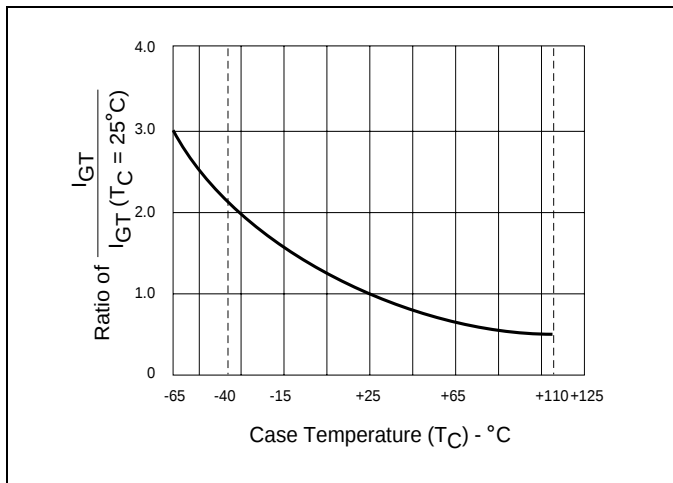

Figure 1.7 Normalized DC Gate Trigger Current for All Quadrants vs Case Temperature
- (6) See Figure 1.7 for I_{GT} vs T_C .